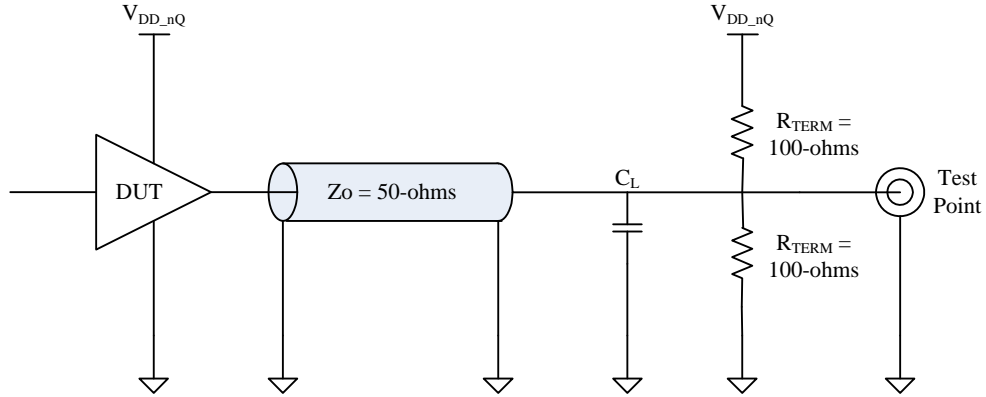

Figure 8B. Thevenin Terminated LVC MOS/LVTTL Test Circuit
1. All outputs are equally loaded. See figure 8B.
1. When measuring the dynamic supply current, all outputs are disconnected from the equivalent test load defined in figure 8B.